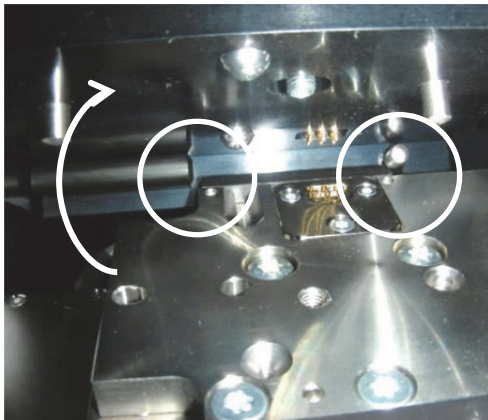

Figure 5.5: Applying the Detector to the guidance block.
2. Apply the detector against the guidance block (Figure 5.5).